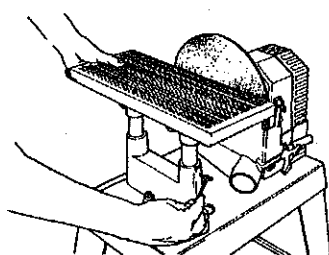

Fig.H-7
9. Adjust the height of the Extension Table top to be at the center of the Disc Sander. See Fig.H-7. Tighten the carriage setscrews.